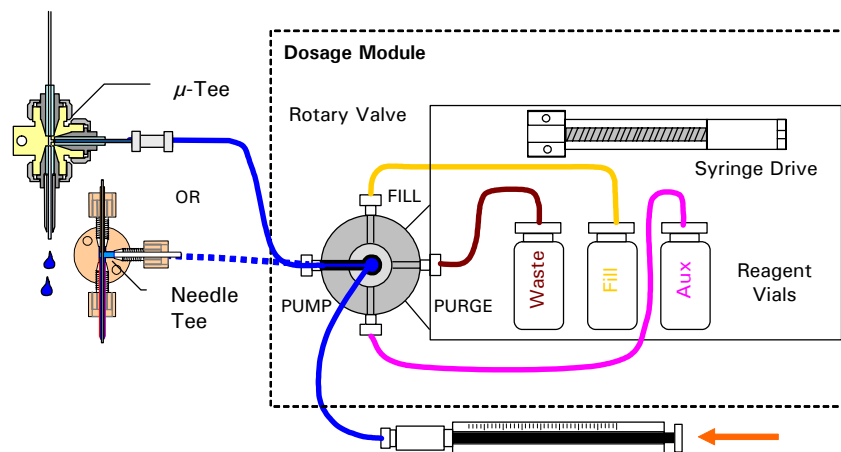

FIGURE A-2 Step 1 – Purge the Tubing
- a) Switch the rotary valve into the PUMP position, remove the syringe (FIGURE A-2) and push the piston all the way forward to remove any air or solvent left. Refer to Section 3.3.3 for more information about how to replace the syringe.